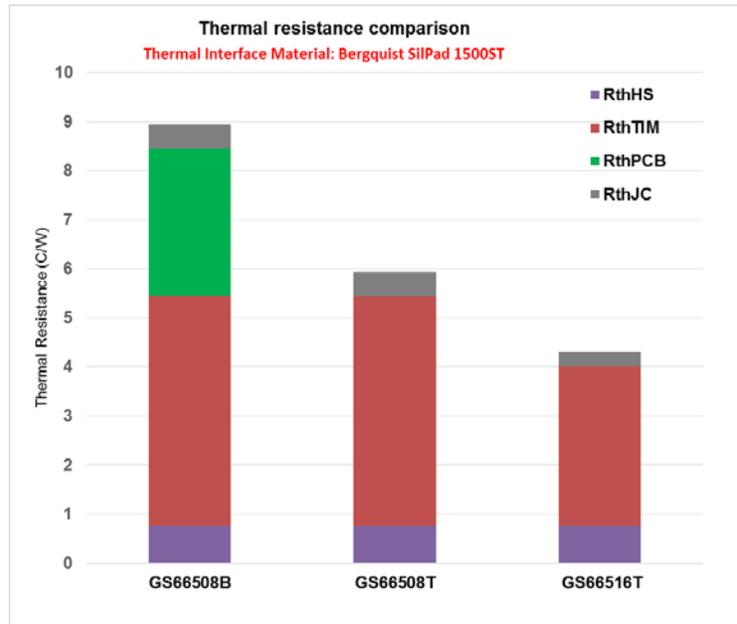

Figure 9 Evaluation board thermal resistance comparison
- The TIM we use on this assembly is Berguist® SilPad 1500ST, the measured total thermal resistance can be found in Figure 9. Compared to a bottom-cooled design, the top-side cooled package eliminates the PCB thermal resistance and significantly improve the thermal performance. Thermal grease is typically not needed on the assembly. If thermal grease is applied, use non-conductive and non-capacitive type thermal grease.